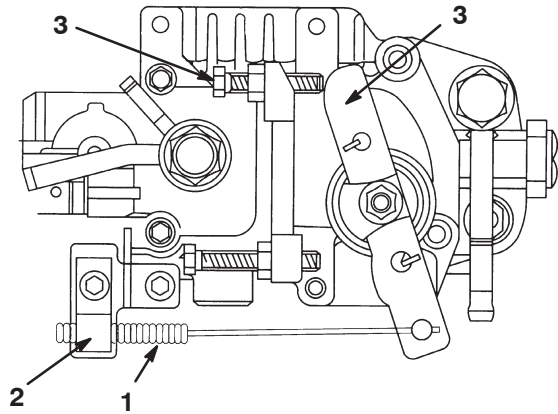

Figure 47
1. Move the remote throttle control lever to the Slow position (Fig. 47).
2. Loosen the cable clamp screw securing the cable to the engine (Fig. 47).
3. Move the cable until the speed control lever contacts the idle speed screw (Fig. 47).
2. Loosen the locknut on the idle speed screw (Fig. 47).